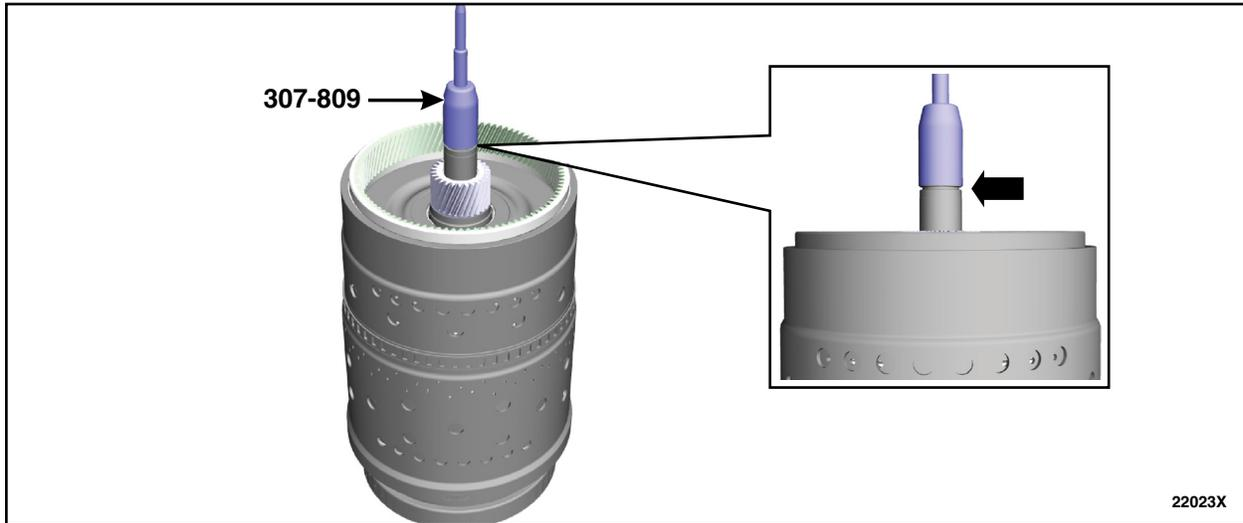

FIGURE 33
37. Install the Special Service Tool: 307-809 push & sizer, F0 Seal guide and adjust the special tool to align the bottom edge of the tool with the top edge of the bottom Teflon® seal groove. See Figure 33.